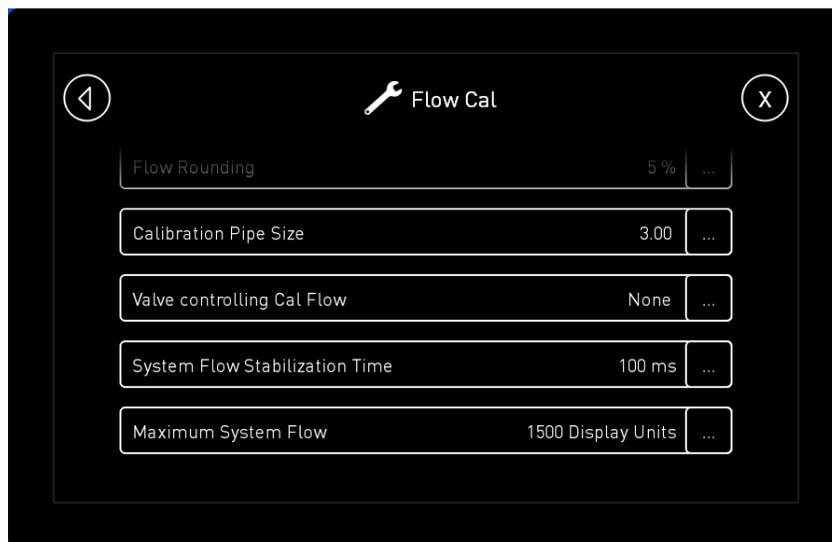

Figure 54. Flow Cal Additional Settings page
7. Select “Flow Cal” to show the Flow Calibration related adjustment parameters (Figure 54).